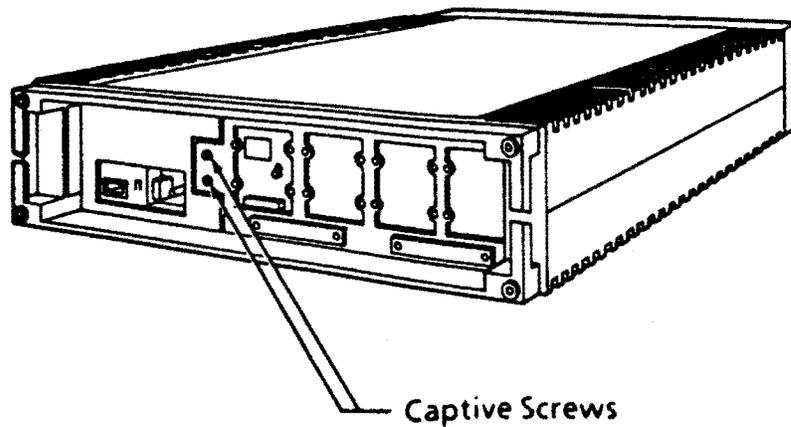

Figure 4-3: Patch and Filter Panel Assembly Access
5. Loosen the two captive screws on the left end of the Patch and Filter Panel assembly, and swing it open (Figure 4-3).